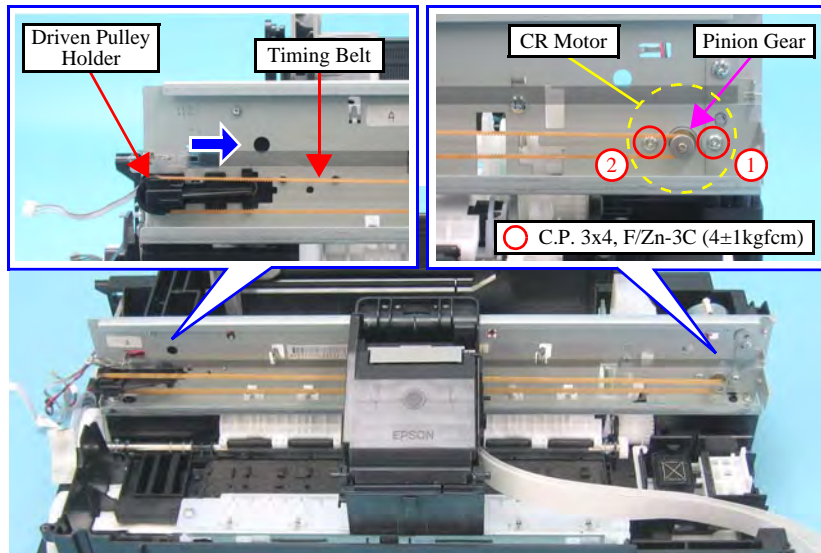

Figure 4-67. Removing the CR Motor (2)
- Tighten the screws in the order given in Figure 4-67.